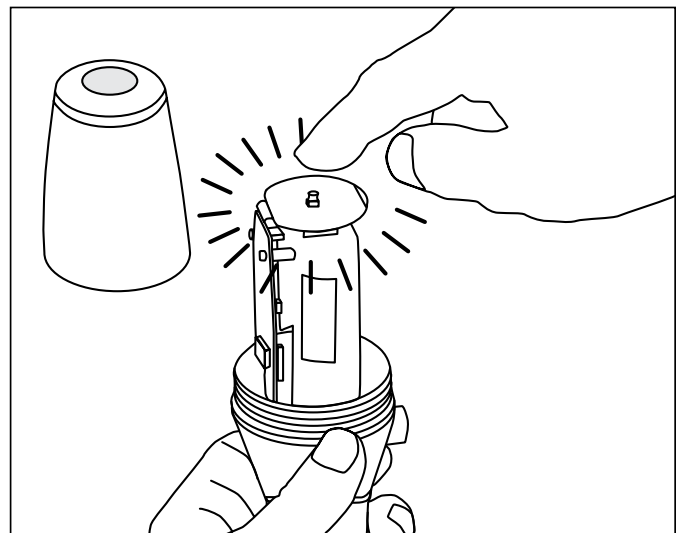

Figure 54
2. Press and hold the top **“Reset”** button down for 15 seconds (see figure 54). The LED will flash red and green.